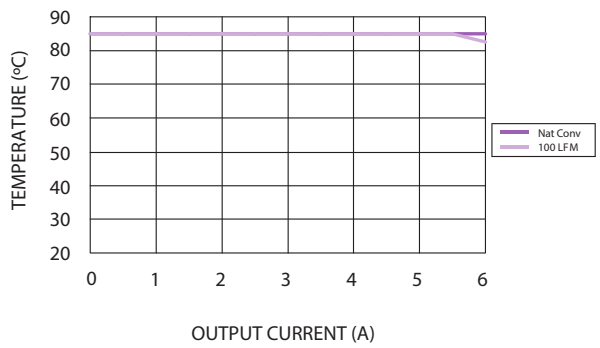

Figure 3 - Safe Operating Area for PTH12050L
8. The pk-pk output ripple voltage is measured with an external 10 μF ceramic capacitor. See Figure 3 for Standard application schematic.